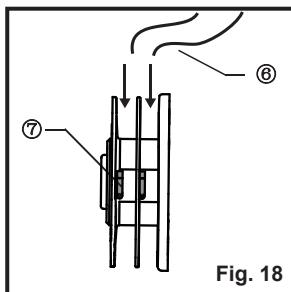
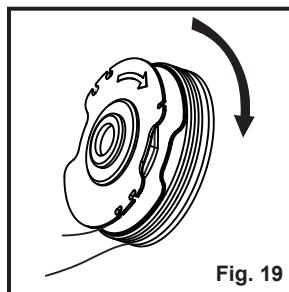

Fig. 18
Fig. 19
5. Prepare 2 cutting lines ⑥ with the same length for winding. There are 4 eyelets ⑦ in the spool, 2 eyelets ⑦ in the upper section and 2 eyelets ⑦ in the lower section (Fig. 18).
6. First feed 4" of cutting lines ⑥ into the two eyelets ⑦. Two eyelets ⑦ should be in the different sections of spool.
7. Wind the cutting lines ⑥ onto the spool in the direction of the arrow showed on spool. Make sure to wind the lines on neatly and in layers. Do not crisscross (Fig. 19).